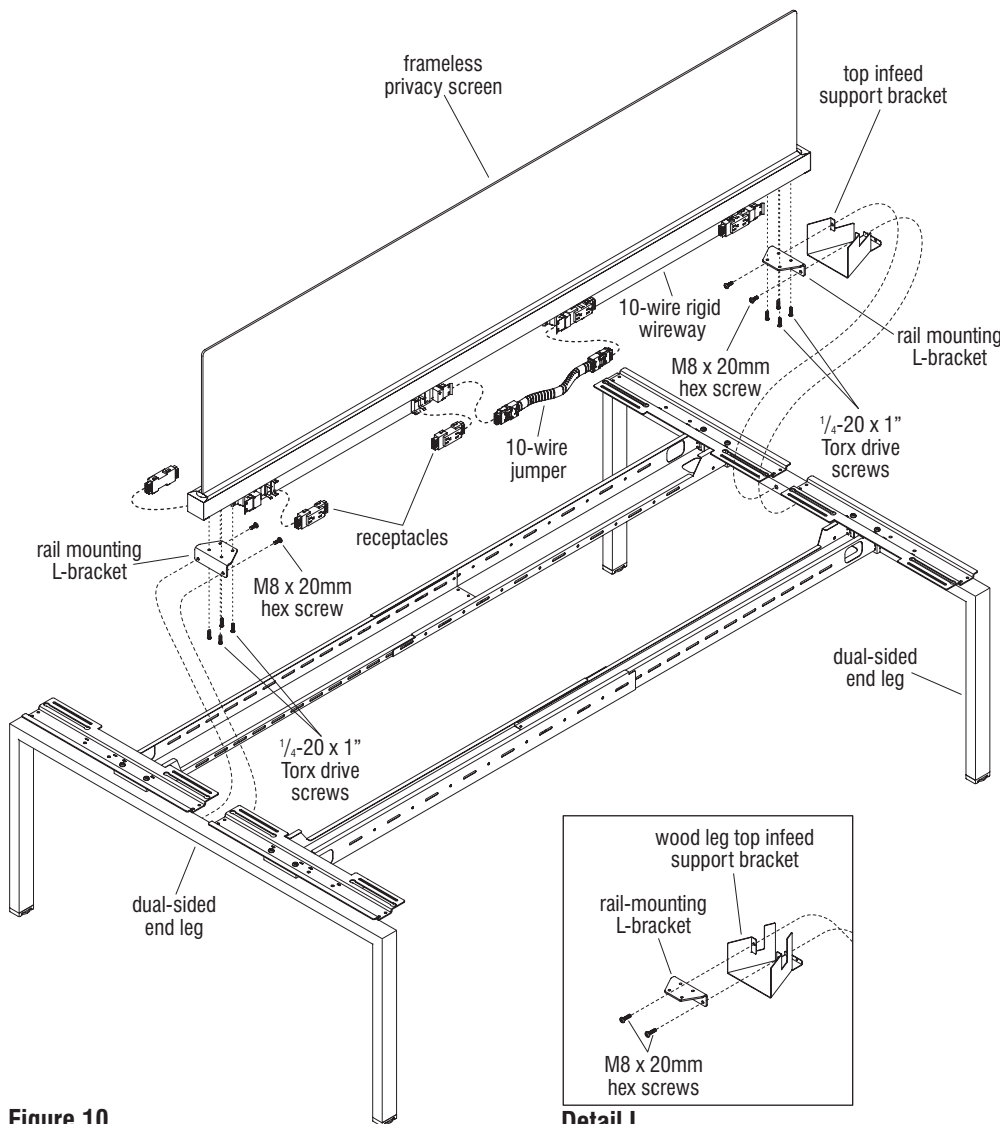

Figure 10
Important: At locations where a top power infeed is specified, a "top infeed support bracket" must attach to the inside of a support frame at the power infeed location before a "rail mounting L-bracket" can be installed (Figure 10 & Detail I).
specified, install that under the rail mounting L-bracket at this time (Figure 10).
3. Set the frameless privacy screen assembly onto the installed rail mounting L-brackets. For stand-alone frame assemblies, center the frameless screen exactly on the frames with equal overhang at each side. If the frameless privacy screen is to install to a dual-sided intermediate leg on either end, the end of that frameless screen will be $\frac{1}{16}$ " short of exact center on the intermediate leg (Figure 10).
4. With frameless privacy screen correctly positioned over rail mounting L-brackets, insert four $\frac{1}{4}$ -20 x 1" Torx screws through each L-bracket and insert into the threaded channels in the rail under the frameless screen and tighten to secure (Figure 10).
5. If specified, the frameless privacy screen may contain one or two 10-wire rigid wireways attached to the rail, depending on length of the frameless screen. If two rigid wireways are attached, plug the appropriate 10-wire jumper in between the wireways. Locate and plug all duplex receptacles into both sides of the 10-wire rigid wireways, taking care to follow the space-planning layout for correct receptacle number/placement (Figure 10).